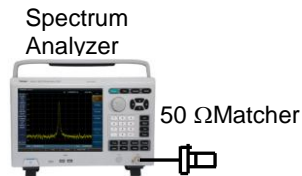

Fig 11-14 Residual Response Testing Setup
1) Connect the test device according to Fig 11-14. Connect the 50 Ω matcher with the signal input port of the spectrum analyzer, and set the spectrum analyzer as follows: